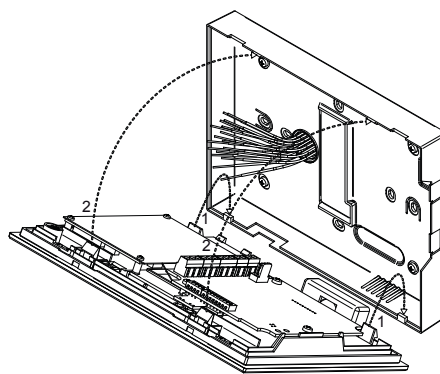

Fig. 11
4. Connect the wires using a flat screw driver then setup the dip-switches as per provided connection diagram or instruction sheet and fix the front part of the videophone to the back cover as shown in **Fig. 11**: hook first the bottom side then rotate the front part and hook the upper side;